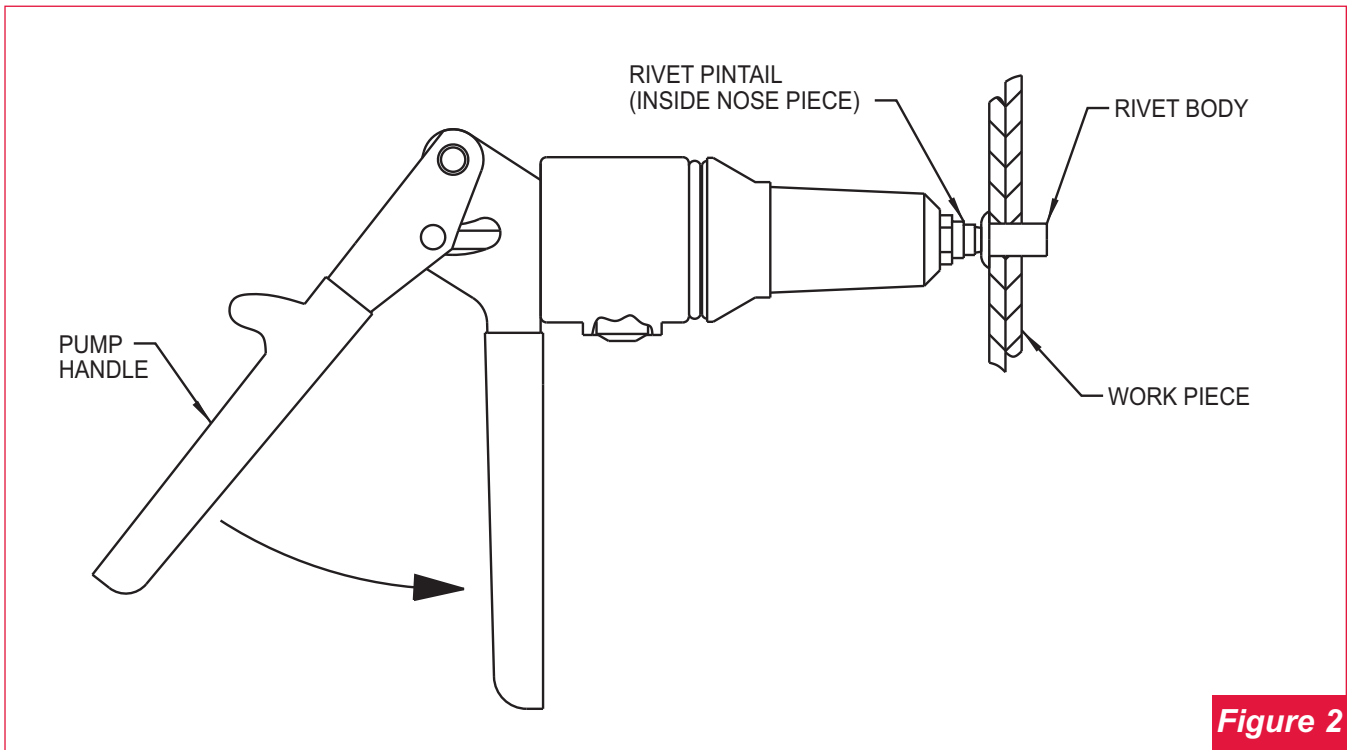

Figure 2
The HK-150 hydraulic riveter installs fasteners by a pull and release system. Placing lever in "PULL" position, and pumping the handles (see figure 2 on the next page) will actuate the tool. After installing the fastener, the tool must be returned to its original position, which releases the pintail. To do this, point the tool downward, place lever in "RELEASE" position, and squeeze handles (see figure 3). The pintail should drop out.
3. Hold the tool steady against the work piece and pump Handles until rivet is set and pintail is broken*. See figure 2